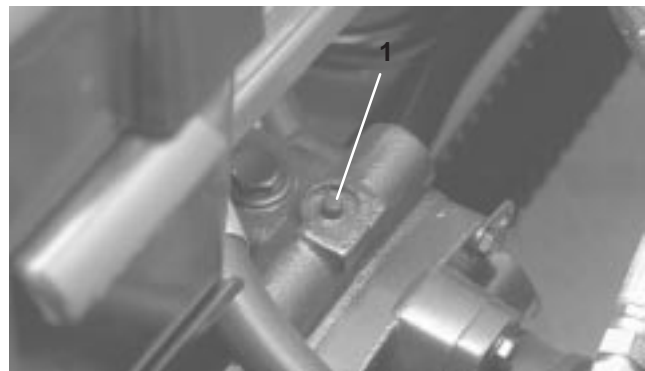

Figure 30
1. The bypass valve is located on top of variable displacement pump (Fig. 30). Rotate the valve 90°, in either direction, to open and allow oil to bypass internally. Because fluid is bypassed, the machine can be moved slowly without damaging the transmission.